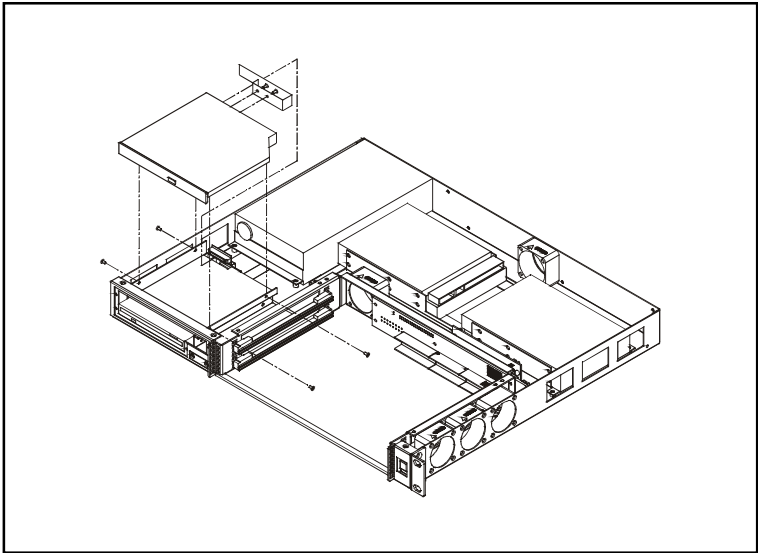

Figure 2-6: Installing a slim-type CD-ROM drive
2. Fasten the CD-ROM to the mounting brackets. (please refer to Figure 2-6)